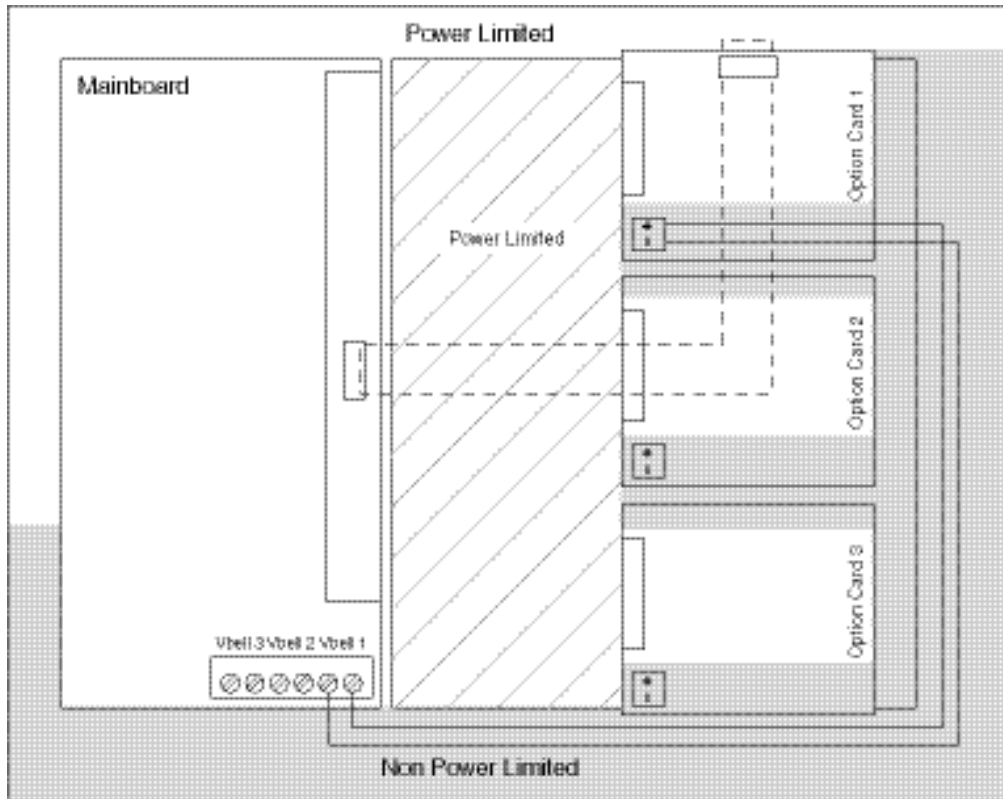

Figure 2 Power Limited Wiring Diagram
- Figure 2 shows the areas of the cabinet in which power limited/non-power limited wiring may be routed.